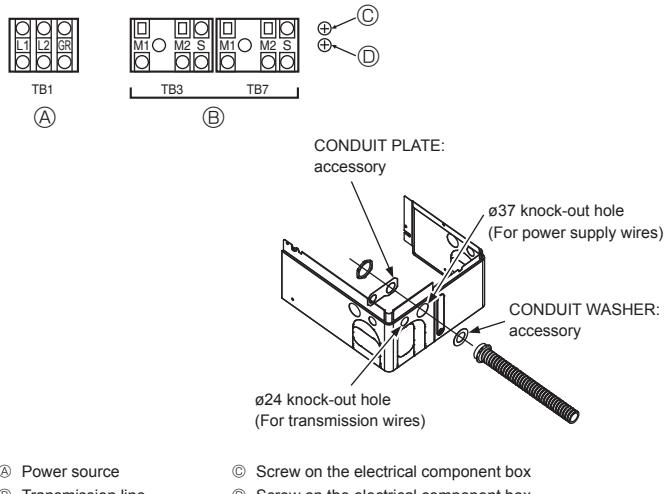

Fig. 6-1
6.2. Control box and connecting position of wiring (Fig. 6-1)
- Connect the branch box transmission line to transmission terminal block (TB3), or connect the wiring between outdoor units or the wiring with the centralized control system to the centralized control terminal block (TB7). When using shielded wiring, connect shield ground of the branch box transmission line to the screw (Ⓒ or ⓐ) and connect shield ground of the line between outdoor units and the central control system transmission line to the shield (S) terminal of the centralized control terminal block (TB7) shield (S) terminal. In addition, in the case of outdoor units whose power supply connector CN41 has been replaced by CN40, the shield terminal (S) of terminal block (TB7) of the centralized control system should also be connected to the screw (Ⓒ or ⓐ) using attached lead wire.